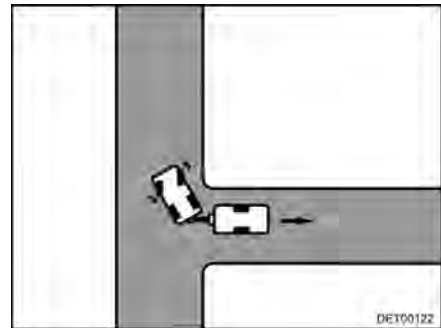

Fig. 16 Steer to the right
- Steer to the right and reverse with caution (Fig. 16).